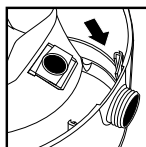

FIGURE 28
41. Slide the inlet deflector with the filter bag attached into the deflector guide. **FIGURE 28.**